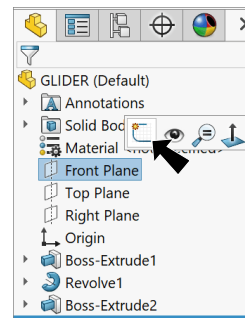

Fig. 25
Step 1. Click **Front Plane**  in the Feature Manager and click **Sketch**  on the context toolbar, **Fig. 25**.